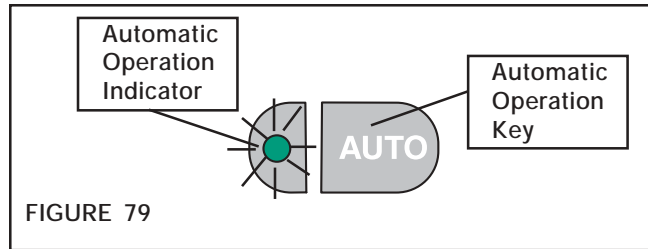
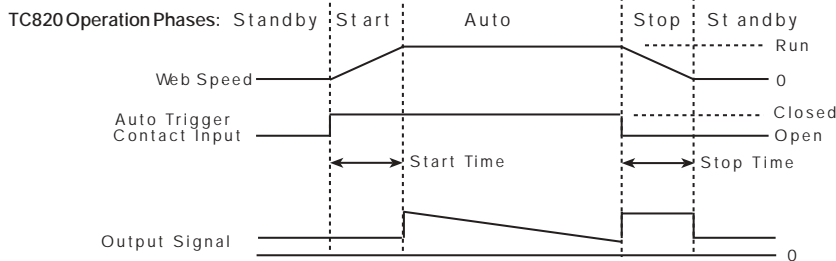

FIGURE 79
FIGURE 81 - Auto Trigger Timing Diagram (for a typical Unwind Brake Operation)
To select automatic operation, press the **Automatic Operation Key** (See Figure 79) until the Automatic Operation Indicator turns on.
To select manual operation, press the **Automatic Operation Key** (See Figure 79) until the Automatic Operation Indicator is turned off.
When the Automatic Operation Indicator is illuminated (See Figure 79), the Auto Trigger signal will cycle the TC820 from Standby through all the phases of operation and back to Standby (See Timing Diagram Figure 81, below).
1. The TC820 transitions from Standby to the Start Operation Phase. The output level (Signal) is determined by the START LEVEL function. During this phase, the START TIMER is running and the web speed is rapidly increasing as shown in the top line in Figure 81.
1. The TC820 transitions from Automatic to the Stop Operation Phase. Here, the output level (Signal) is determined by the STOP LEVEL function. During this phase, the STOP TIMER is running and the web speed is rapidly decreasing as shown in the top line in Figure 81.